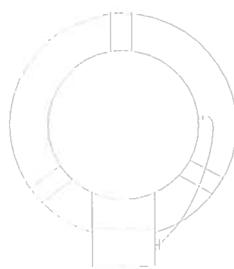

Figure 1
1. Drill one 7/16" hole into the collar of the unit. The center of the hole needs to be 3/8" from the flue pipe where the collar meets the flue. The location of the hole must be 90° on the right side of the controller of the unit. As shown in Figure 1. Complete installation following steps 3, 4, & 5 under Type 2 instructions.